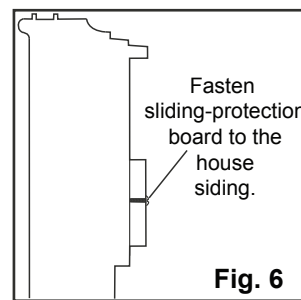

Fig. 6
5. Securely attach a siding-protection board to side of house. (Fig. 6)
6. Securely attach a sliding-protection board. (Fig. 6)